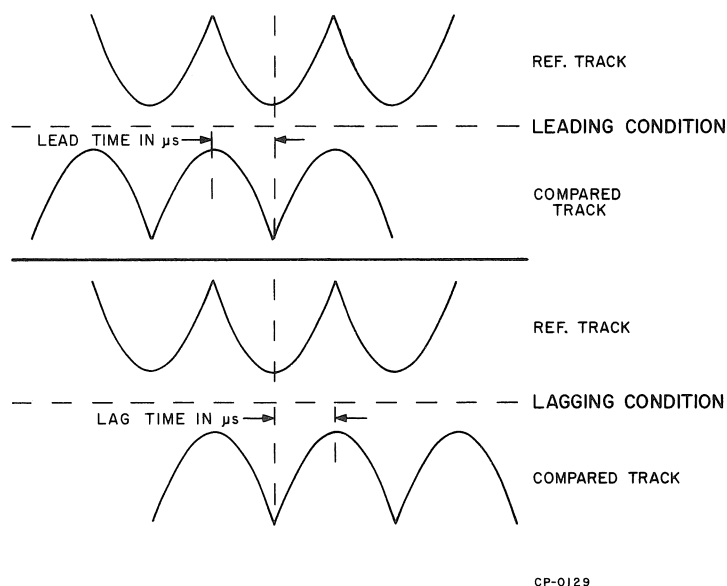
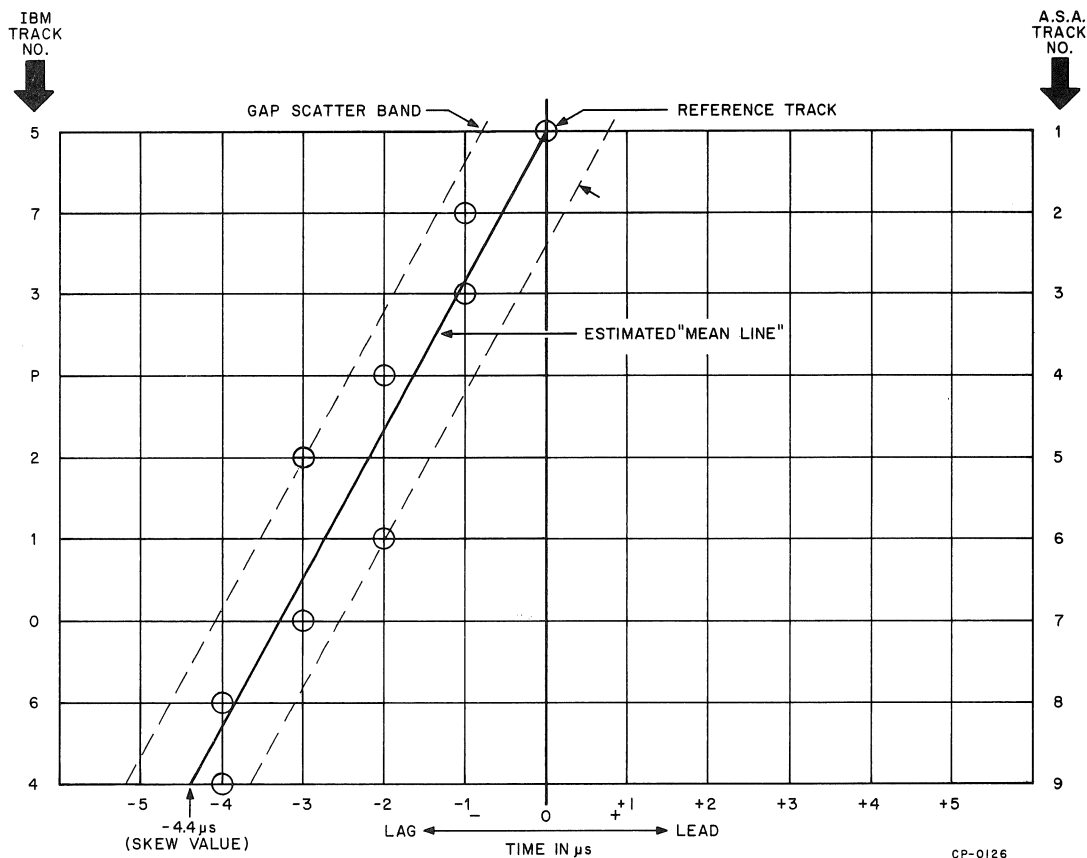

Figure 5-16 Lead/Lag Patterns
Figure 5-17 9-Channel Skew Plot
5. Measure lead or lag time between track 7 and reference track (see Figure 5-16). Plot lead/lag time on graph paper as shown in Figure 5-17.
6. Compare each of the remaining tracks to the reference track and plot the corresponding lead or lag time (see Figure 5-17). Refer to Table 5-2 for read amplifier pins.
7. Examine the graph and draw a straight line as shown in Figure 5-17. The line should originate at the reference track and should be equally spaced between the points farthest to the left and right.
8. The intersection of the "mean line" drawn in Step 7 with the horizontal line for track 4 represents the mechanical skew (for example, in Figure 5-17 this skew value is $-4.4 \mu\text{s}$). If the measured skew exceeds $2 \mu\text{s}$, refer to the deskewing procedure that follows. (The tape guide system allows approximately $3 \mu\text{s}$ of mechanical deskewing.)